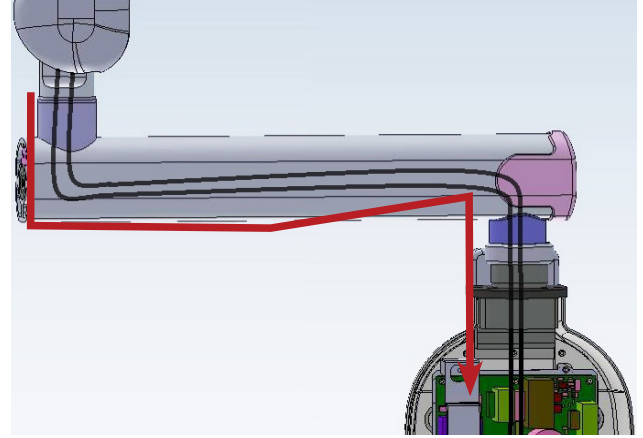

Figure 78
- Route the scissor-arm cables through the straight-arm till it comes inside the base unit (Use guide wire for routing and guide with finger from the slots available bottom side of the straight arm) as shown in Figure 78 .